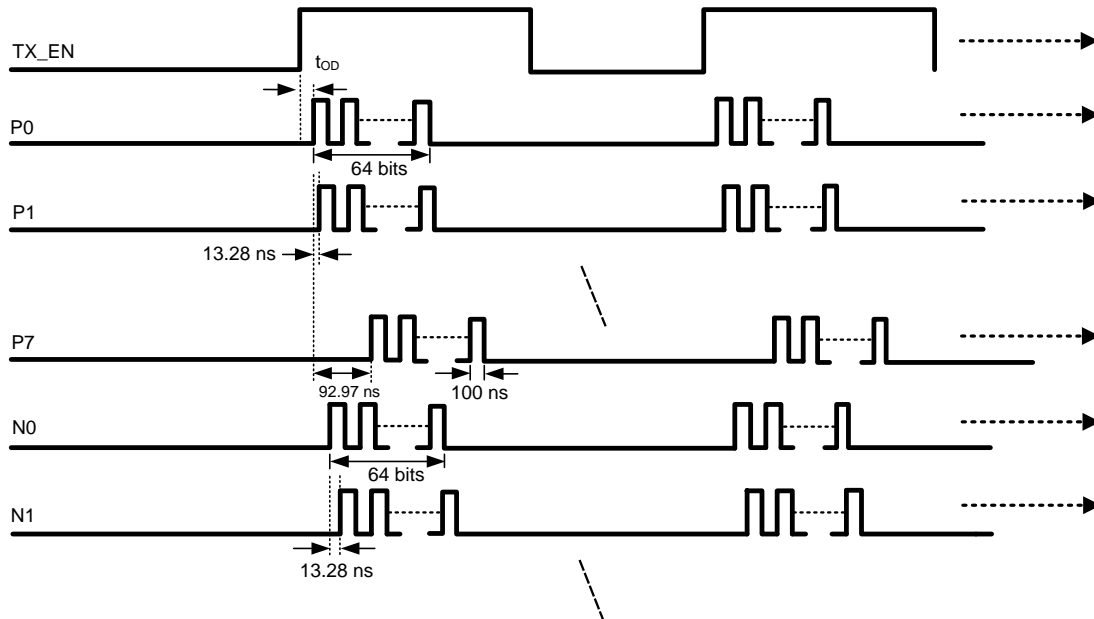

Figure 18. Beamformer Output with Example 1A Parameters
- After firing is complete for all channels, "TX_EN" is pulled low, as the beamformer waits for the next firing signal, i.e., when "TX_EN" is pulled high. See Figure 18 for firing diagram.